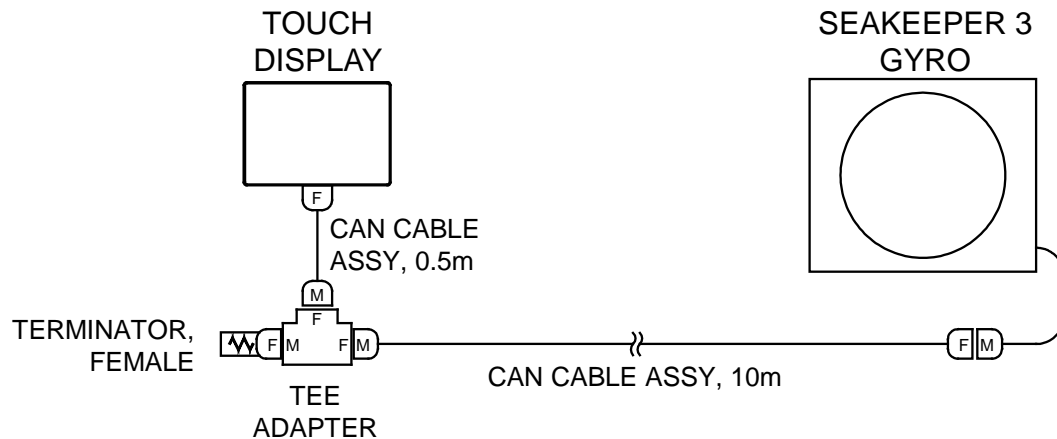

FIGURE 12 – SERIAL COMMUNICATIONS LINK FOR OPERATOR STATION
- c. Figure 12 below shows the CANbus communications link for the Operator Station. The Terminator goes on one the far end of the Tee Adapter from the Seakeeper.